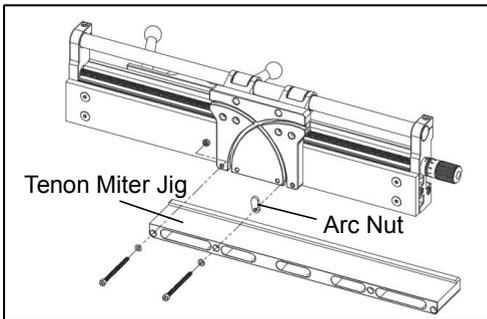

Fig. 12
- As shown in Fig. 12, mount the Tenon Miter Jig to the Protractor Plate. One of the fasteners will act as a pivot point, whereas the other fastener & arc nut will allow the tenon miter jig to slide in the arc track to be set at different angles. You'll need a protractor or a tool for setting the appropriate angle for your cuts.